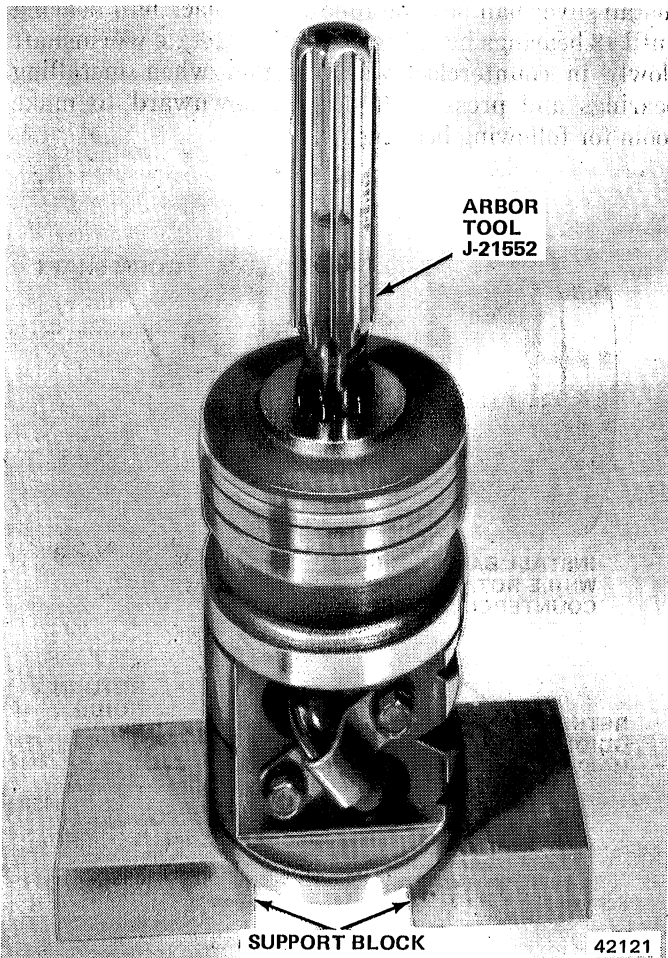

Fig. 2L-35 Arbor Tool Installed in Rack Piston
(12) Position assembled rack piston and arbor tool on end and support assembly on wood blocks until ready to install in housing (fig. 2L-35).